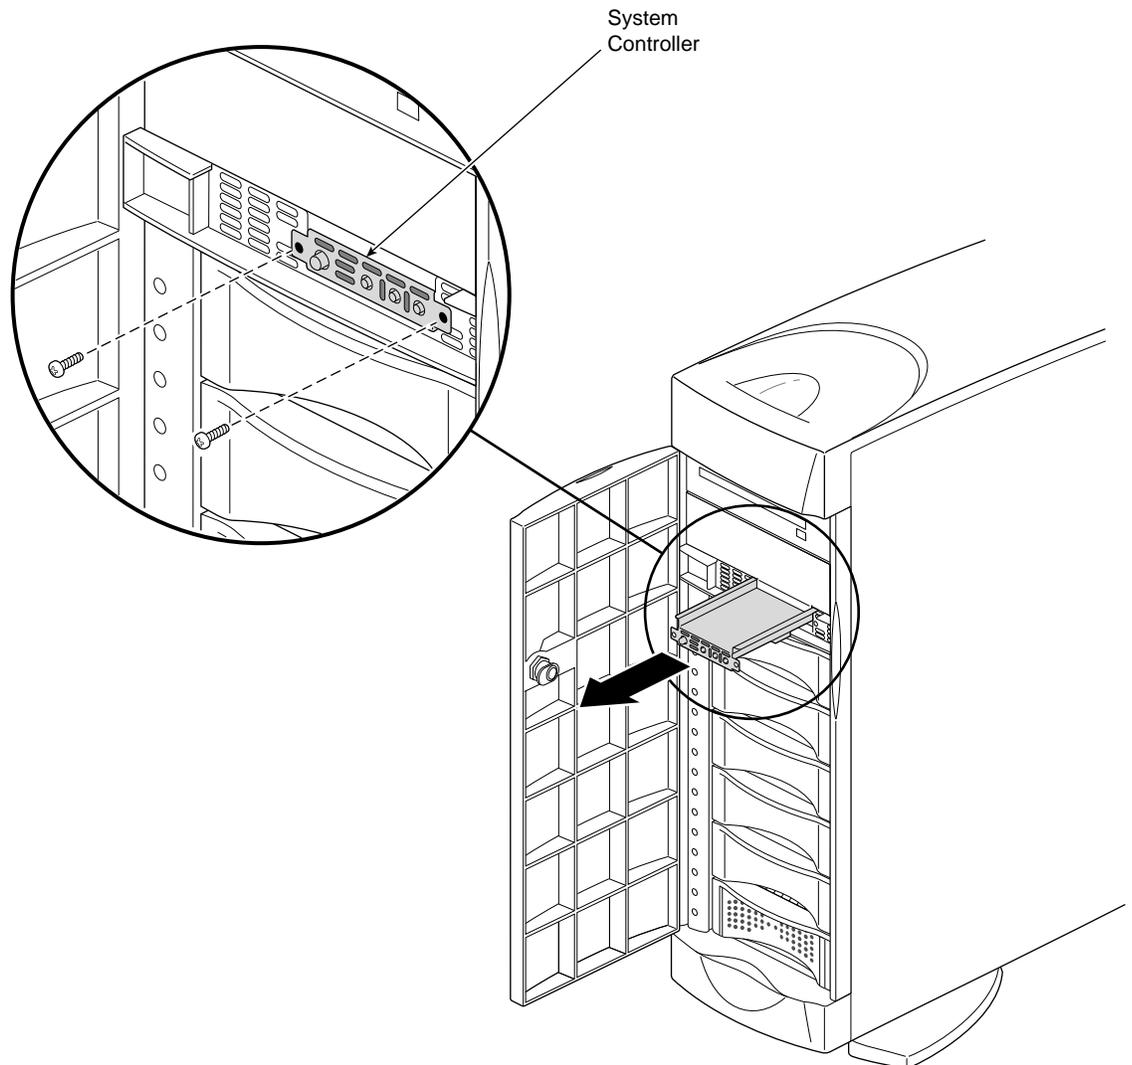

Figure 5-18 Removing the System Controller Assembly From the Chassis
4. Using a #2 Phillips screwdriver, remove the two screws that fasten the system controller assembly to the chassis, as shown in Figure 5-18.